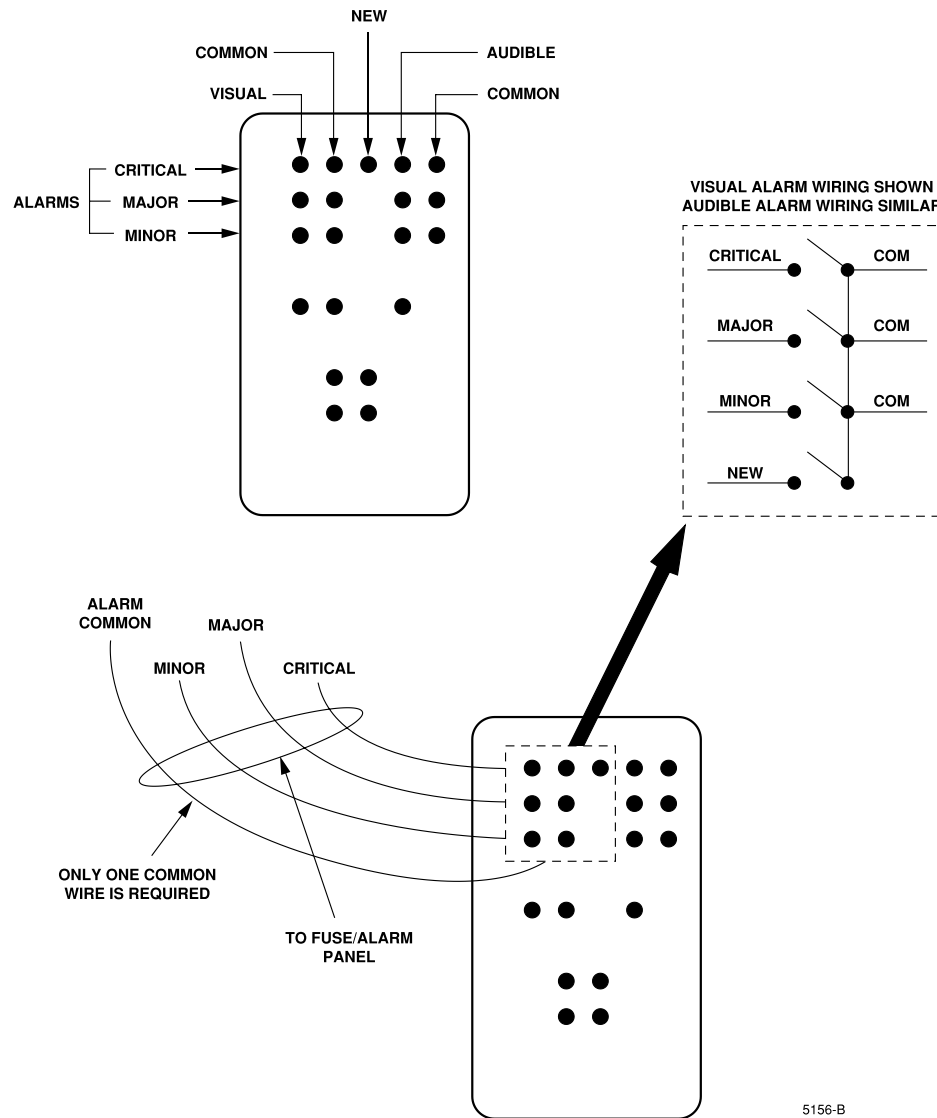

Figure 4-7. Shelf Alarm Connections (Upper Wire-Wrap Pin Block)
3. Connect the CRITICAL alarm wire pairs (visual/common and audible/common) to the appropriate pins on the upper wire wrap pin block as shown in Figure 4-7.
4. Connect the MAJOR alarm wire pairs (visual/common and audible/common) to the appropriate pins on the upper wire wrap pin block (see Figure 4-7).
5. Connect the MINOR alarm wire pairs (visual/common and audible/common) to the appropriate pins on the upper wire wrap pin block (see Figure 4-7).
6. If applicable, connect the NEW alarm wire to the NEW pin on the upper wire wrap pin block (see Figure 4-7).